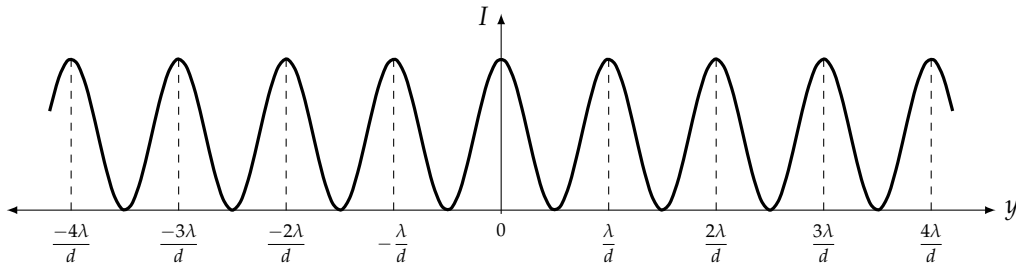

Figure 2: The two-slit fringe pattern on a screen at a distance L from two slits separated by distance d , from eq. (5).
is shown in Fig. 2. In actuality, eq. (5) does not fully describe the fringe pattern, which (as you will observe) includes the effect of single-slit diffraction.